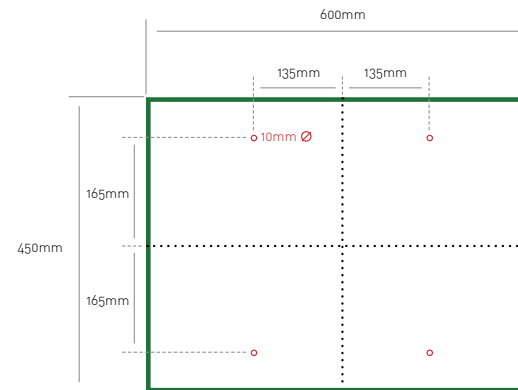

Fig 1.1. Drilling Guide for securing Pavegen units
1.3 Once the floor is set, drill the holes in accordance with fig 1.1. Insert the Pavegen tile and the rawl plugs (not provided) to check them for accuracy.